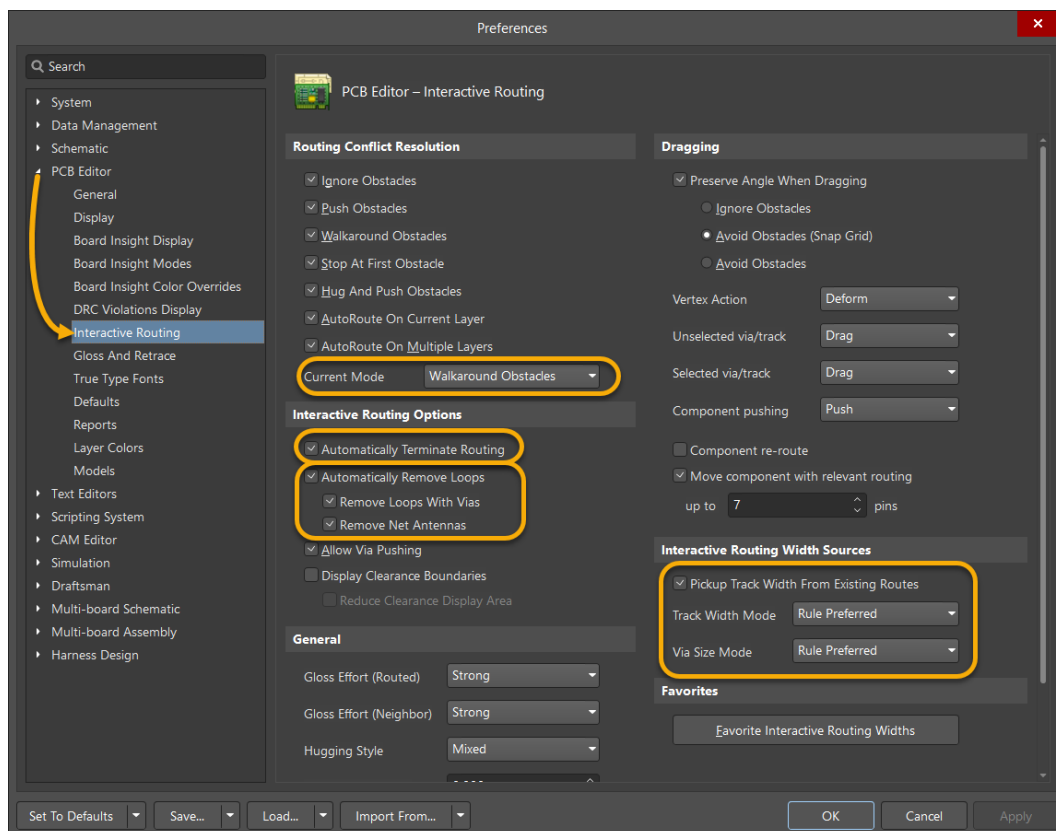

Figure 3. Preferences for Interactive Routing
- a) Press **O » T** to open the *Preferences* dialog to the *PCB Editor* branch on the *Interactive Routing* page, Figure 3.